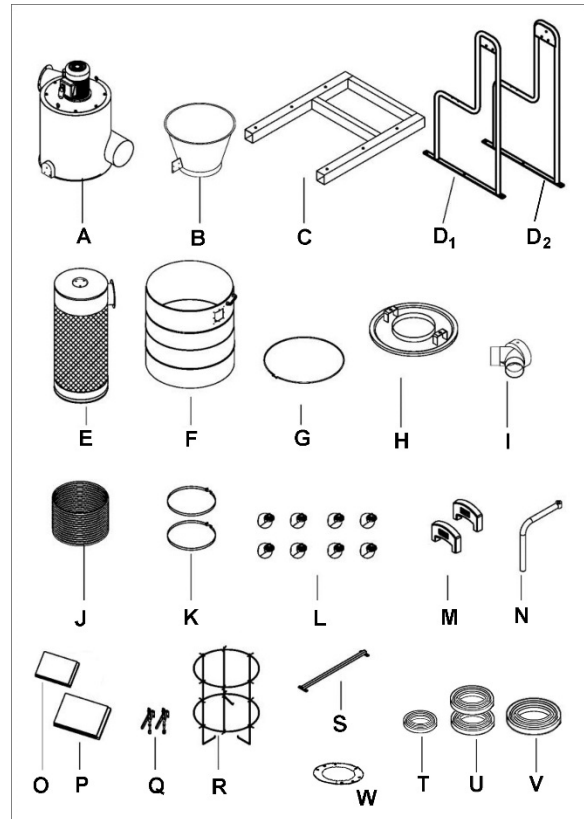

Figure 1: main carton contents (not to scale)
**Main carton** (see Figure 1)